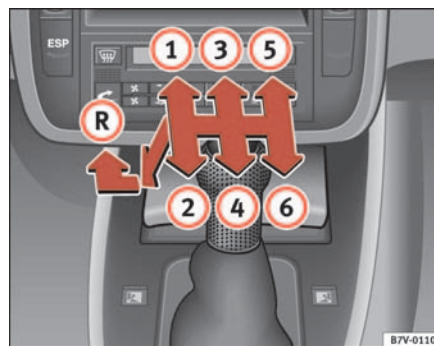

Fig. 127 Manual gearbox with shift diagram
- Put the gearlever ⇒ fig. 127 in the middle (neutral).